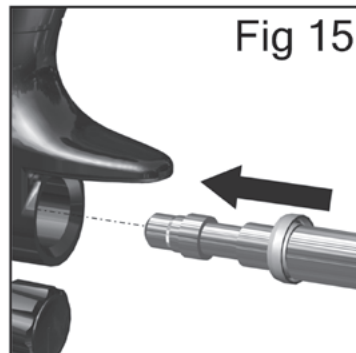

Fig 15
13. Fit valve seat (19) to gunbody. (See fig 15)